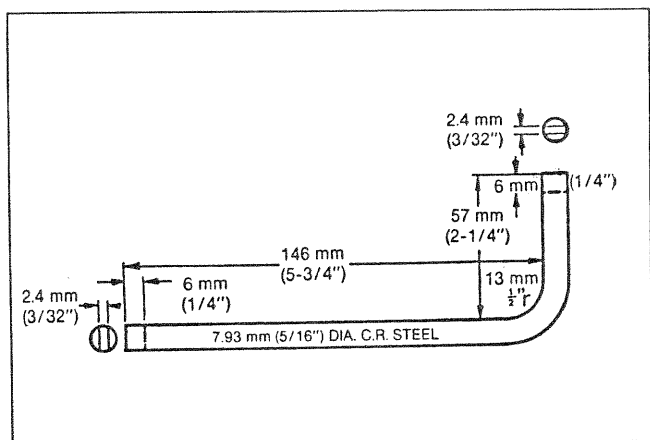

Figure 179. Tang Bending Tool
- A tang bending tool (fabricated locally as shown in Figure 179).